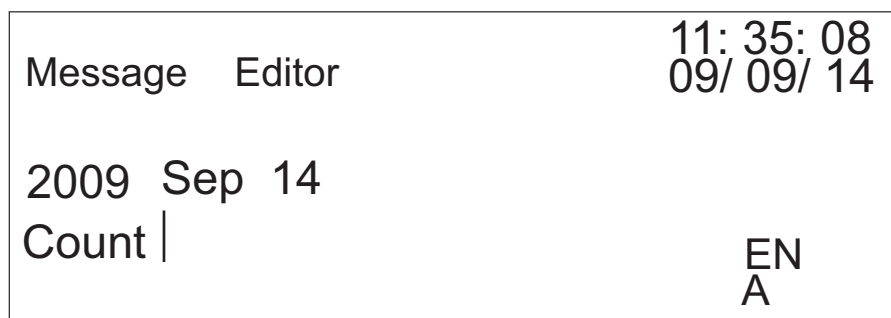

Figure 4-30: Insert Character
- 6 Press  to insert the letter 'C' to the current position. Press  to switch between the lowercase and uppercase input styles. Press    and  to insert 'o', 'u', 'n', and 't' into the message, as shown in the Figure 4-30.